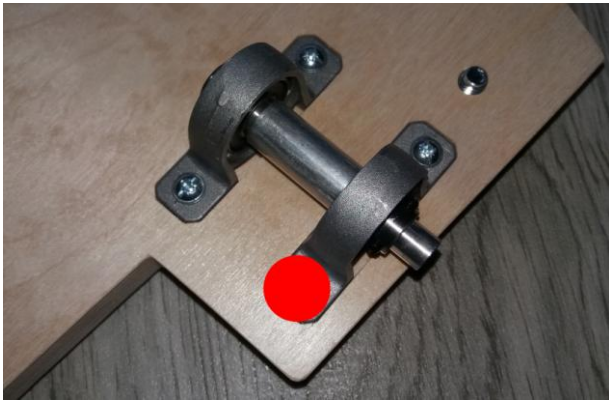
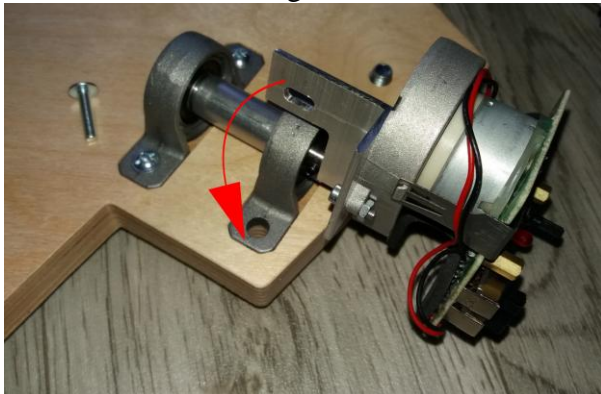

Fig. 2a
Fig. 2c
3. Using a Phillips screwdriver, unscrew the screw marked in Fig. 2a, taking care not to lose
5. Turn the EQ2 motor counterclockwise until the bracket reaches the position in Fig. 2c and then fix the screw marked in Fig. 2a. taking care not to overtighten it;